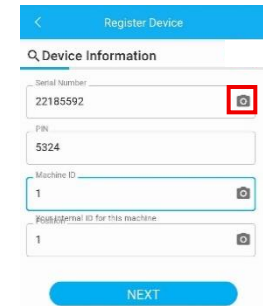

Figure 9
- The **Device Information** page will populate (**Figure 9**).
- For this manual, we will use the same value as the **Position** number (example: 1). See **Figure 9**.